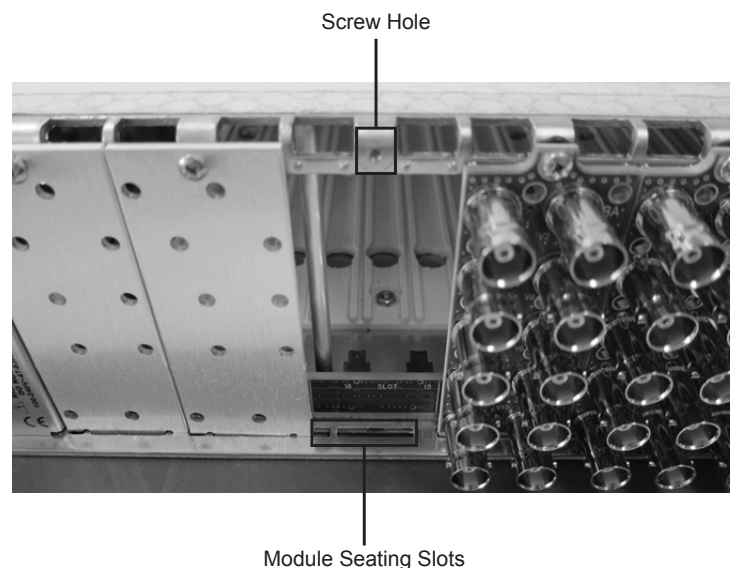

Figure 2.1 Rear Module Installation in an openGear Frame (TEA-8207 not shown)
4. As shown in **Figure 2.1**, seat the bottom of the rear module in the seating slot at the base of the frame's back plane.